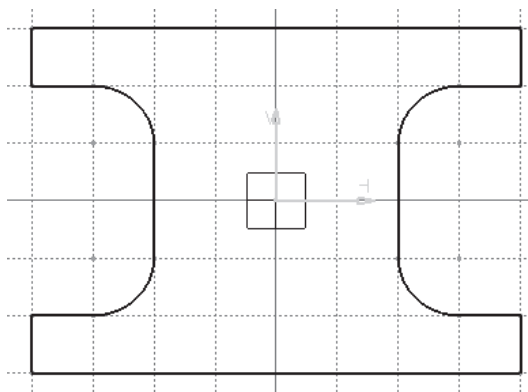

Figure 1-42 The sketch, after drawing the outer loop of the sketch
24. Move the cursor vertically downward and specify the endpoint of the line when it snaps to the start point of the outer loop. The sketch, after completing the outer loop and hiding the constraints, is shown in Figure 1-42.